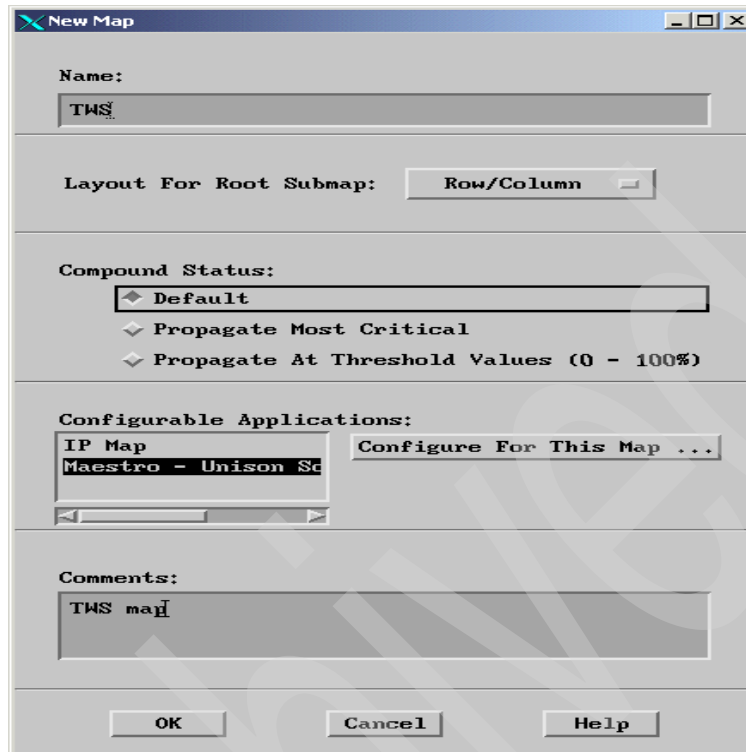

Figure 13-2 Selecting Maestro - Unison Software Inc. (c)
4. Select **Maestro-Unison Software Inc. (c)** in the Configurable Applications field, as shown in Figure 13-2 on page 626.